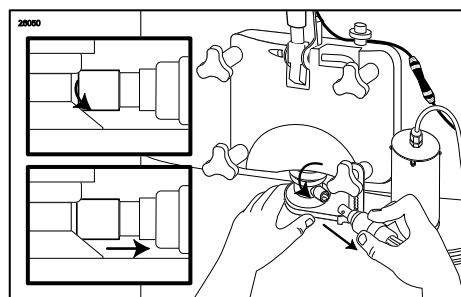

Figure 54
2. Rotate the 9-Tube Assembly coupler until it unlocks and remove it from the Injector Head syrup line opening. (See Figure 54.)